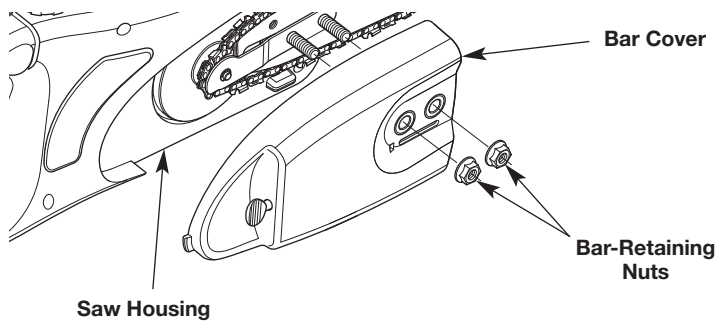

Fig. 27
1. Use a 1/2 inch (13 mm) wrench to remove the bar-retaining nuts (Fig. 27).
2. Remove the bar cover (Fig. 27).
6. Place the bar cover onto the saw housing (Fig. 27). Insert the tab on the bar cover into the slot on the saw housing (Fig. 27). The guide bar bolts should protrude from the holes in the bar cover.